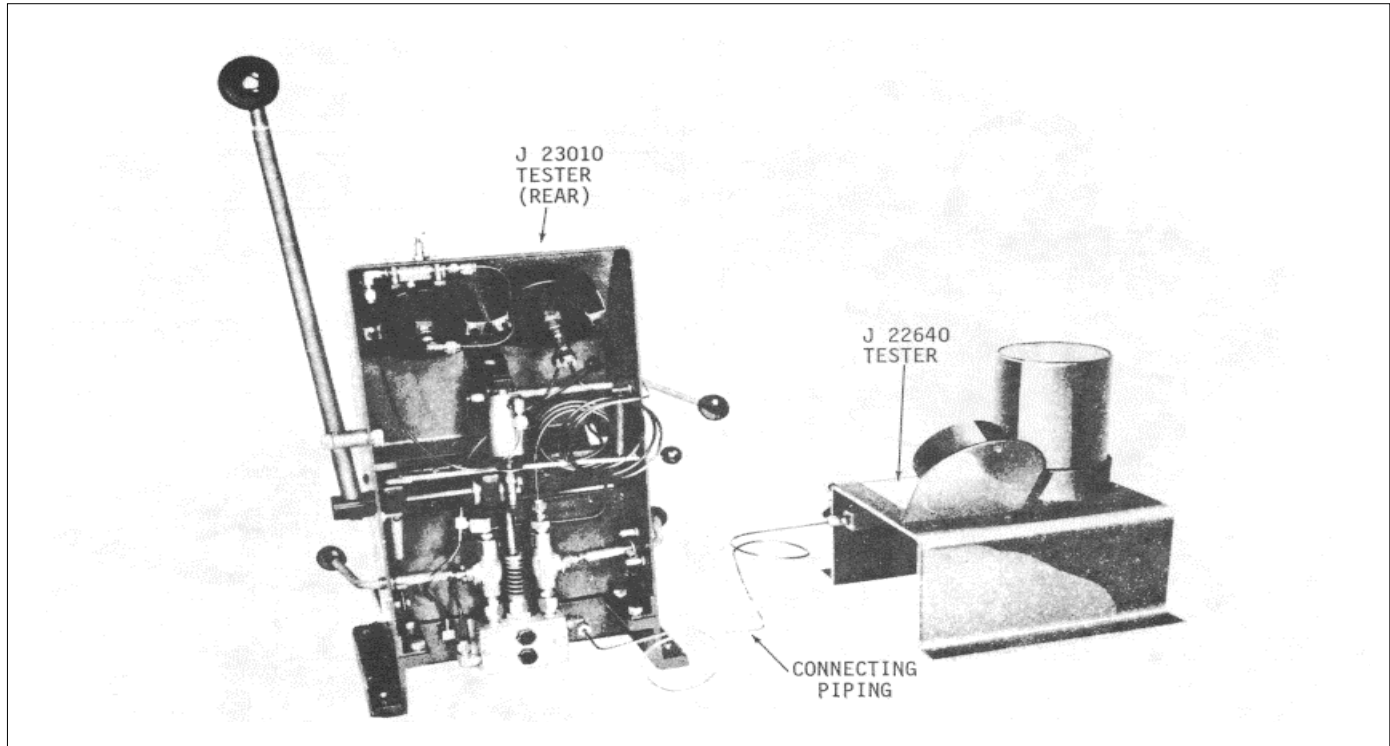

Fig. 17
- (1) Connect the pipe from auxiliary tester J 22640 to the rear of the J 23010 tester at the connection located near the bottom of the tester (Fig. 17).